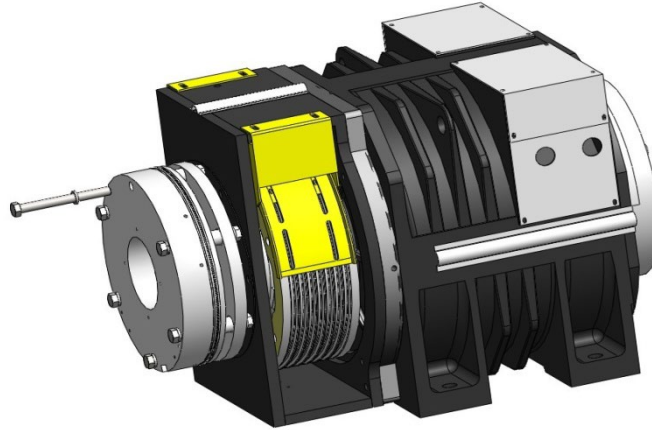

Figure 41 Final Bolt installation
7. Remove the threaded rod M16x320; tighten remaining bolt M16x165 and lock washer 16. See Figure 41.